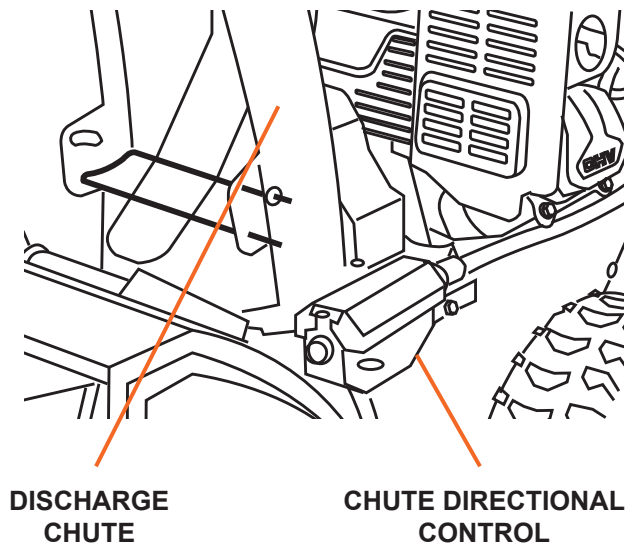

Figure 6
2. Attach the chute crank bracket aligning the chute notches with the spiral end of the chute directional control assembly (see Figure 6). Lubricate both ends of the chute directional control crank with petroleum jelly, paraffin wax, or light machine oil.